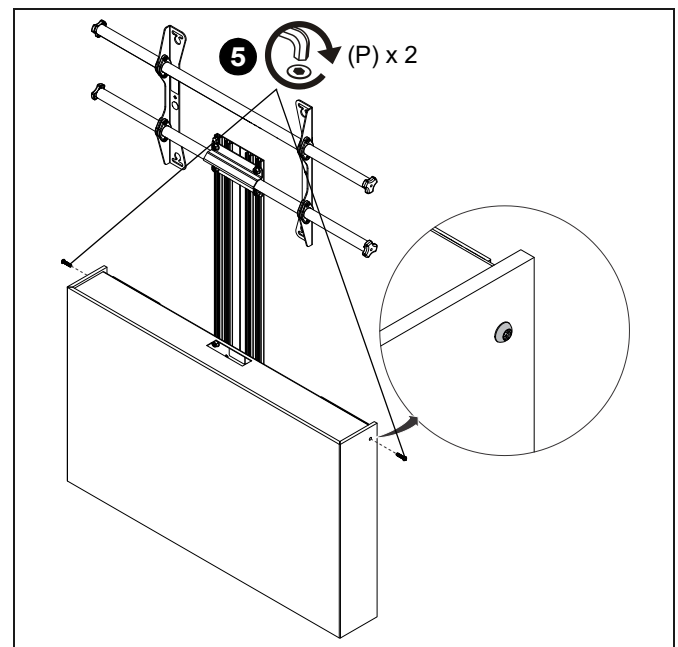

Figure 24
4. Slide the large cover (J) onto the front face of the storage box from the side. (See Figure 24)
5. Secure the large cover (J) to the storage box (H) using two M6 x 25 mm screws (P). (See Figure 24)